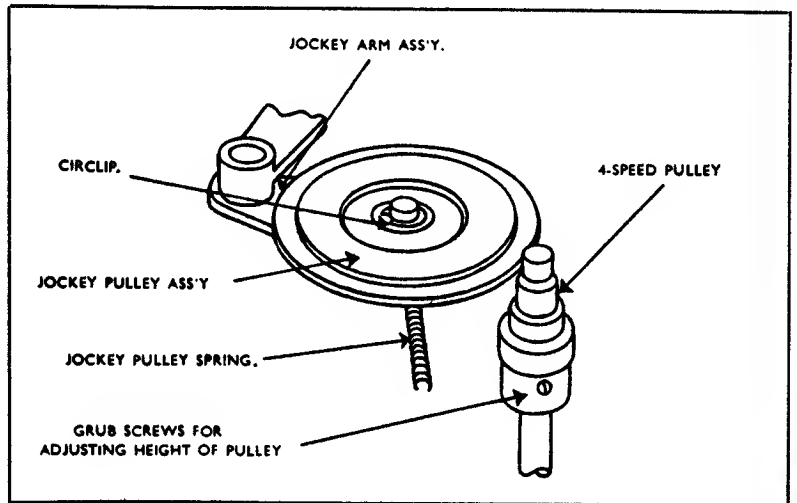
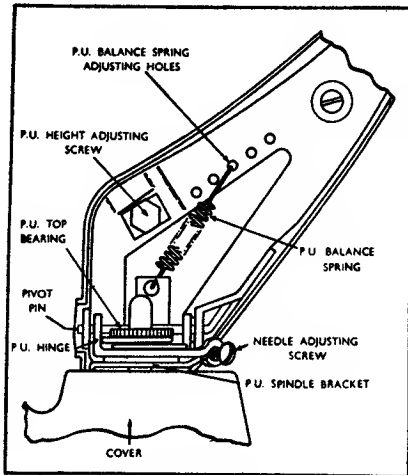

FIGURE 2.
FIGURE 4.
**Needle Set-Down.** --The set-down position of the needle on the record is adjusted by manipulation of the needle adjusting screw (Item 8M261). (See Figure 4.) Adjust this screw until the correct set-down of the needle on a 10" record is obtained. The correct position is 1/8" from the edge of the record. It is advisable to make this adjustment with a stack of 10" records on the turntable. When correctly positioned for a 10" record, the 12" and 7" needle set-down will also be correct.
**Pickup Arm Height.** --The pickup arm height is adjusted by the pickup height adjusting screw (Item 8M257). (See Figure 4.) To raise the height of the pickup arm, turn this screw counterclockwise. To lower the pickup arm turn clockwise. The pickup height should be adjusted so that with a stack of ten average thickness records on the turntable, the point of the needle clears the top record by 1/16 inch. A check should then be made to insure that the pickup
**Needle Pressure.** --Adjustments may be made by repositioning the pickup balance spring (Item 8M263) in the various adjusting holes provided (see Figure 4) until the correct pressure is obtained.
- (1) Set the four speed knob at the 16-2/3 RPM position.
- (2) Slacken setscrews on the 4-speed pulley (Item 8M94) and adjust until the jockey pulley (Item 8M32) is engaged on the smallest pulley diameter just clear of the top step (see Figure 2).
- (3) Tighten setscrews.
This must be done after the changer has switched itself off. Unsolder the pickup leads from the connecting tagstrip. Un screw the pickup top bearing (see Figure 4) and then lift the pickup arm clear. Replace the pickup top bearing to avoid losing the spacer washer.
(3) Jockey pulley not engaging turntable rim.	(b) Check that the 4-speed pulley (Figure 2) is not loose on motor spindle. If loose adjust as under "Adjustments of Speed Change". (a) Check that the jockey pulley is free to pivot. (b) Check that the jockey pulley spring is correctly positioned (see Figure 2).